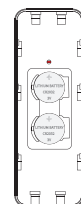

Figure 15
2. Insert batteries according to the polarity markings (Figure 15).